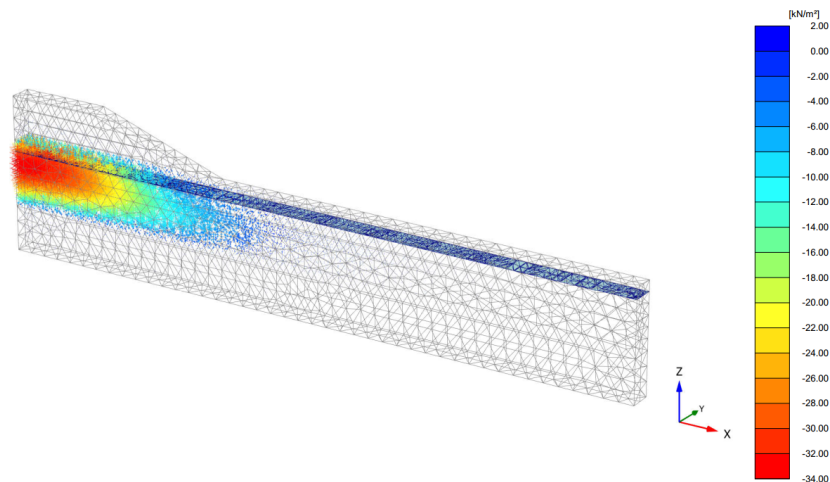

Figure 104: Excess pore pressures after undrained construction of embankment (Phase 3)
2.  Click the **Center principal directions**. The principal directions of excess pressures are displayed at the center of each soil element. For a coloured visualization, in the general toolbar select **Coloured principal directions**. The results are displayed in Figure 104 (on page 129). It is clear that the highest excess pore pressure occurs under the embankment centre.